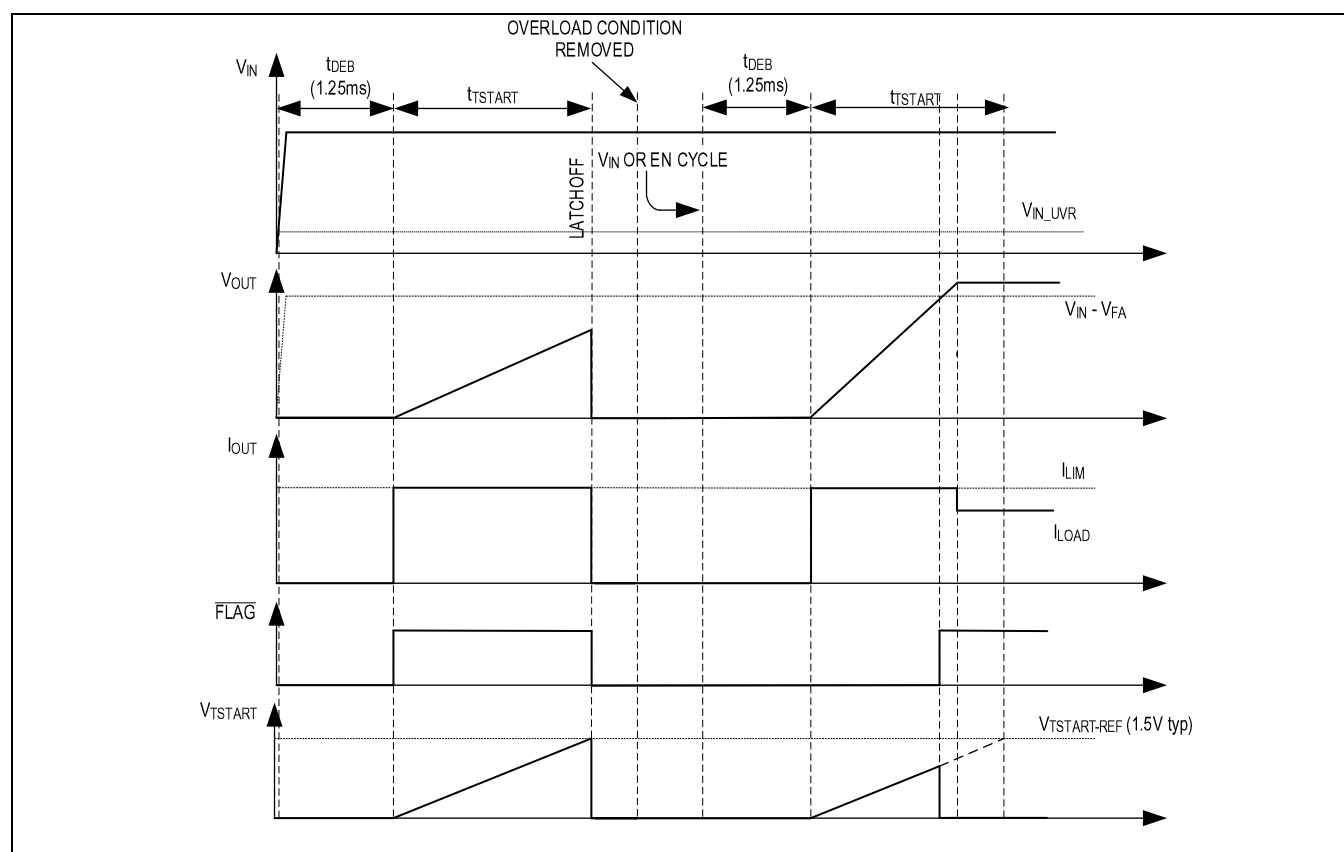

Figure 15. Startup Fault Timing Diagram in Latchoff Current-Limit Mode
During startup in latch-off current-limit mode, the device operates in continuous current-limit mode until t_{TSTART} . If the output voltage V_{OUT} does not reach $(V_{IN} - V_{FA})$ within t_{TSTART} due to overload on the output, then output nFET Q2 is turned off and latched, the timer t_{TSTART} resets, and the \overline{FLAG} pin asserts while the input nFET Q1 is kept ON. To reset the device, either toggle the enable control signal (EN) or cycle the input voltage. Figure 15 depicts startup behavior in latch-off current-limit mode.